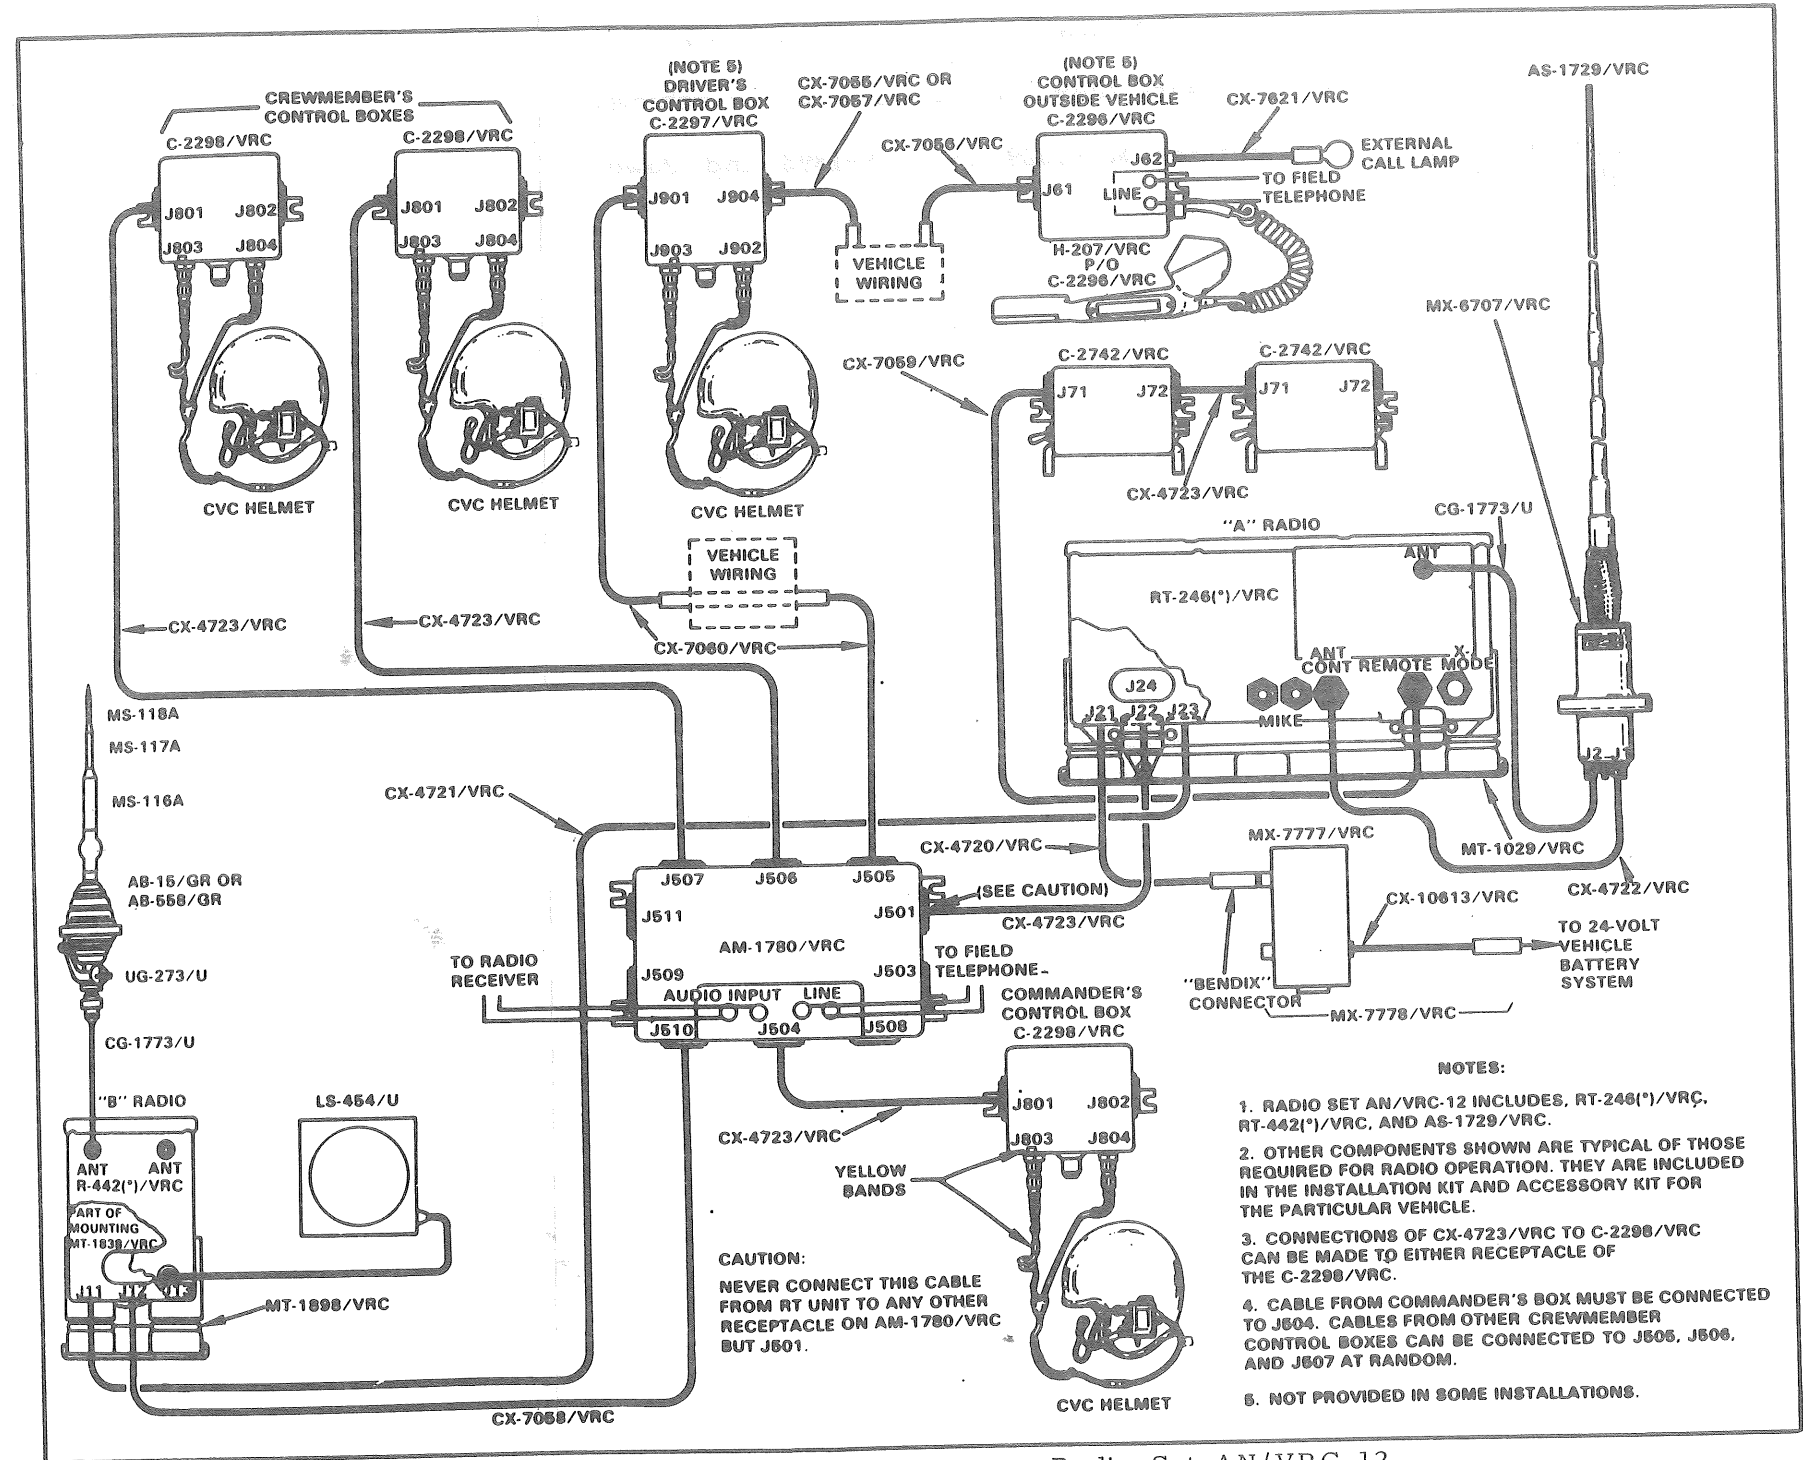

Figure 1. Cabling Diagram Radio Set AN/VRC-12.
- c. Insure the Power Cable CX-4720 is correctly connected from the mount to the vehicle power supply and is strapped to the vehicle (fig 1). (If Suppressor Electrical Transient MX-7778(*)/GRC is installed, connect Power Cable CX-4720 to it, instead of directly to vehicle's power supply.)
- b. Connect Cable CX-4722 from antenna matching unit to Receiver-Transmitter (fig 1).